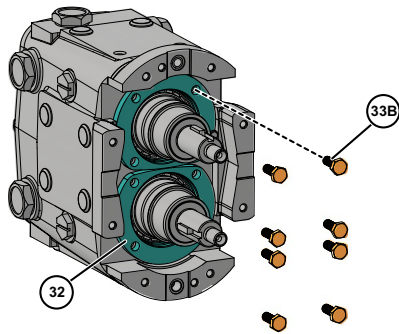

Figure 42 - Remove Bearing Retainers
3. Remove the front bearing retainer screws (Figure 42, item 33B) and pull off the bearing retainers (item 32). (If a retainer is stuck, leave it in place; it will press out when the shaft is removed.)